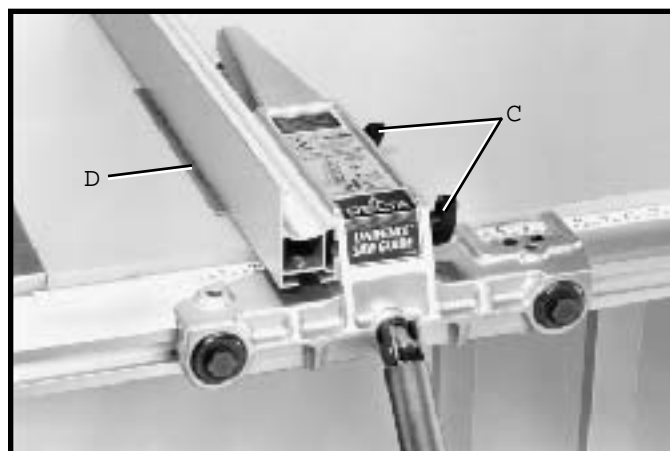

Fig. 71
2 For most normal ripping operations, the bottom of the fence should be positioned slightly above the table surface. Loosen two lock knobs (C) Fig. 71, and place a thin object such as a ruler (D) between the table and fence, as shown. Then tighten two lock knobs (C).